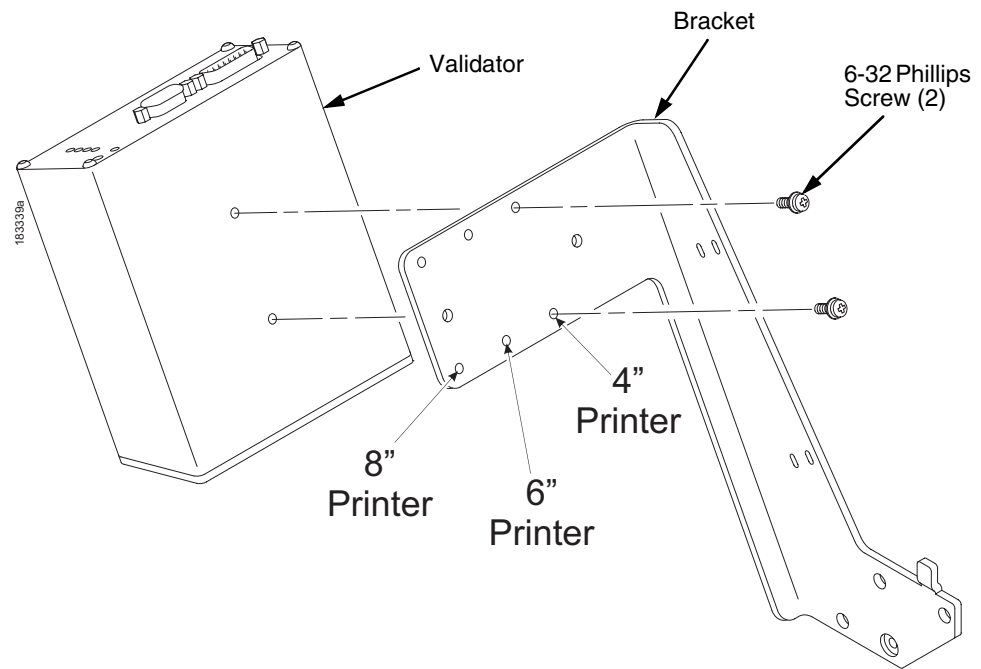

Figure 12. Attaching the Validator to the Bracket
1. Using two 6-32 Phillips head screws, attach the validator to the bracket as shown in Figure 12.